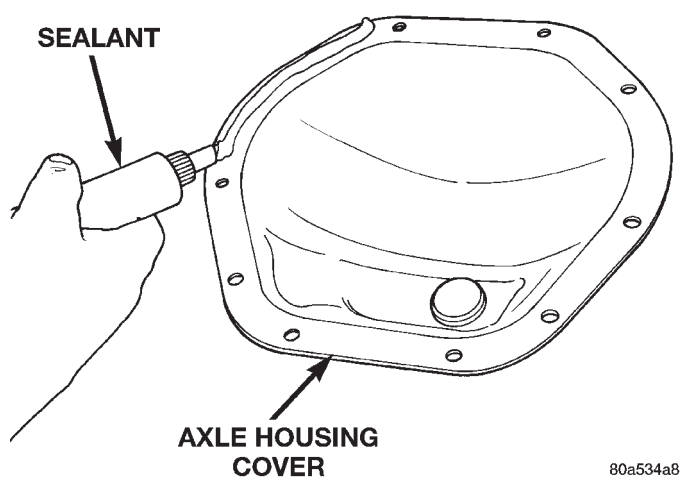

Fig. 6 Apply Sealant
- (1) Raise and support the vehicle.
- (2) Remove the lubricant fill hole plug from the differential housing cover.
- (3) Remove the differential housing cover and drain the lubricant from the housing.
- (4) Clean the housing cavity with a flushing oil, light engine oil, or lint free cloth. **Do not use water, steam, kerosene, or gasoline for cleaning.**
- (5) Remove the original sealant from the housing and cover surfaces.
- (6) Apply a bead of Mopar® Silicone Rubber Sealant, or equivalent, to the housing cover (Fig. 6).